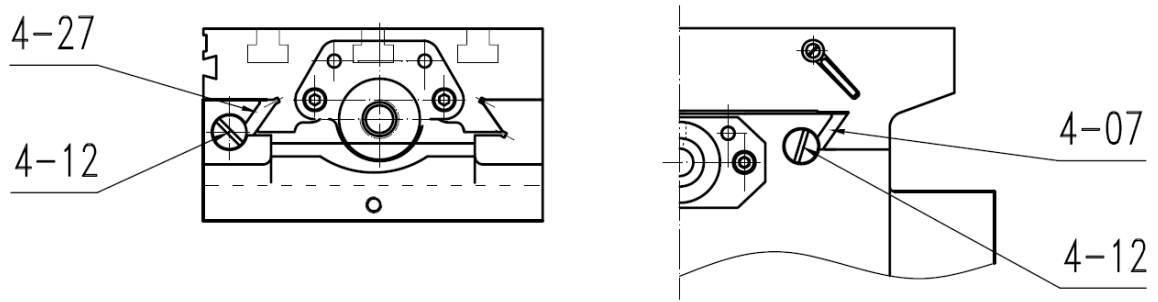

Fig.3
(4)To adjust left and right travel,adjust the sliding plate bolt until feel a slight drag when turning the table(Fig.3)
(5)To adjust fore and afttravel,adjust the sliding plate bolt as shown in Fig.3.